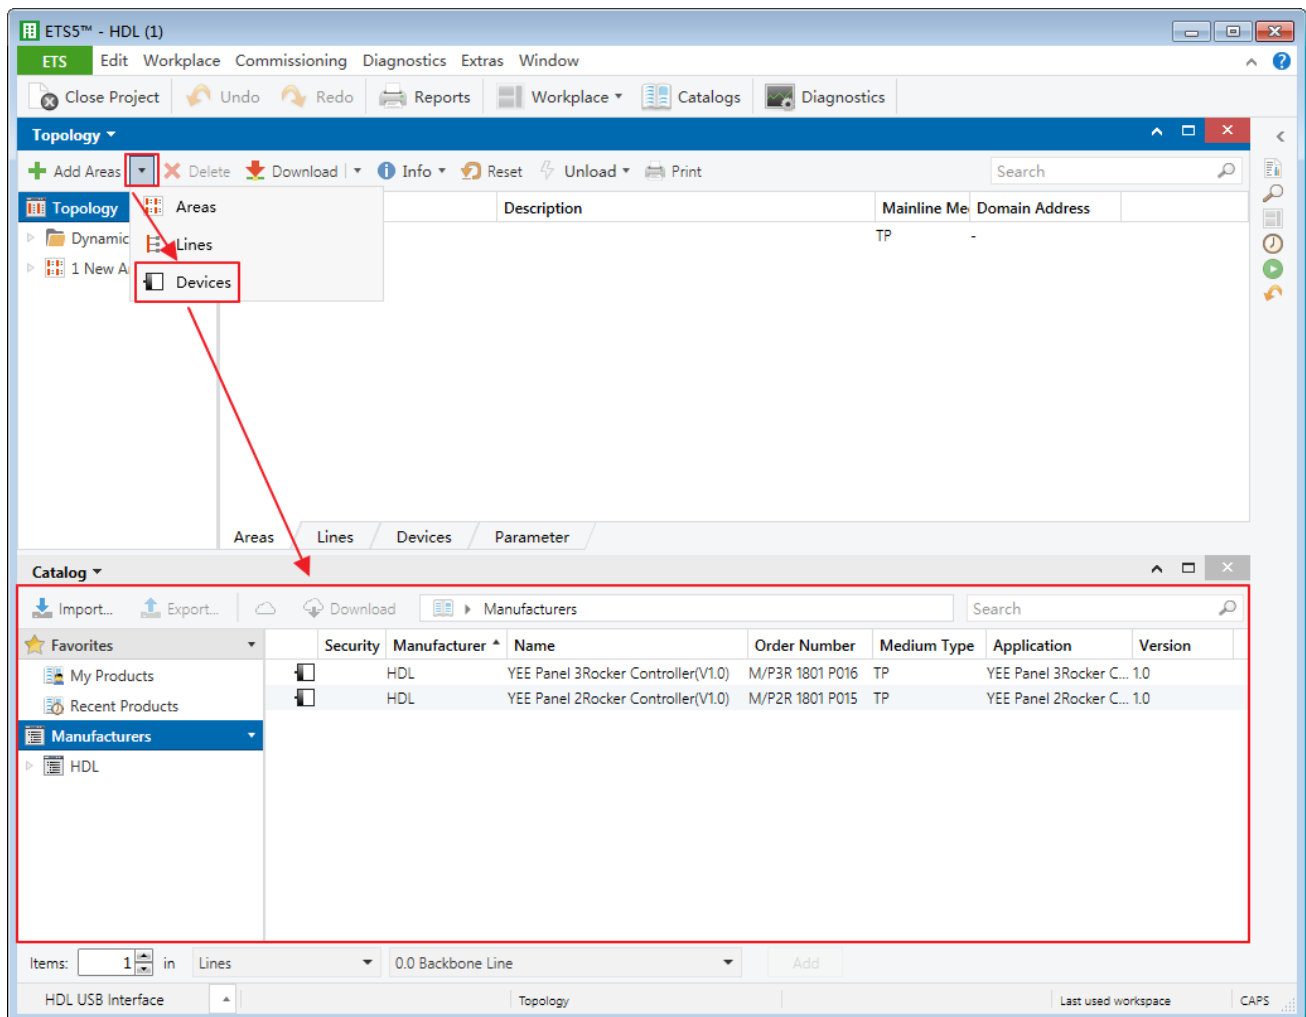

Figure 1-4 Add devices to projects (2)
- ② Figure 1-4 shows “Topology” page, click the arrow beside “Add Areas” and select “Devices”, and the catalog page will show up below.